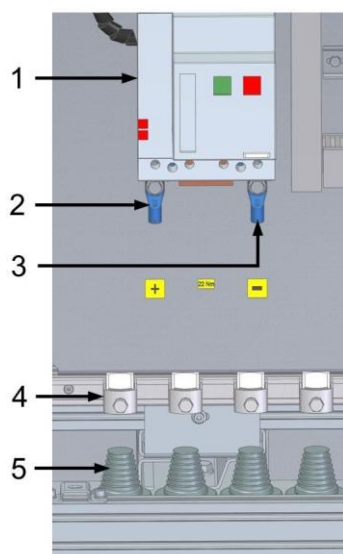

Figure 13: DC connection
1. **Check** the correct polarity (Figure 13).